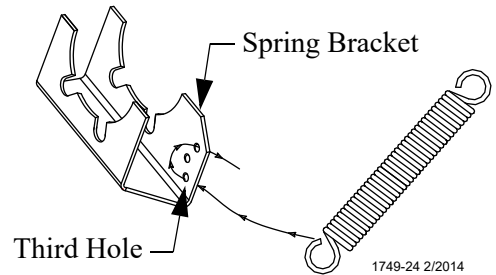

Figure 52. Spring Bracket Assembly
4. Assemble the Spring to the Spring Bracket by sliding the loop of the spring up through the third hole in the bracket, see **figure 52**.